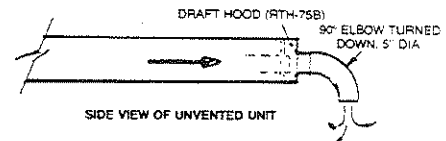

Figure 1a
Side View of Unvented Heater	Fig. 1a, pg. 3
1. A 5" dia. x 90° elbow must be attached to the flue collar and turned down, as shown on Figure 1a.